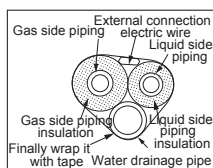

Fig.3
2. Take out the piping from body case, wrap the piping electric wire, water pipe with tape and put them through the piping hole.(As show in Fig. 3)